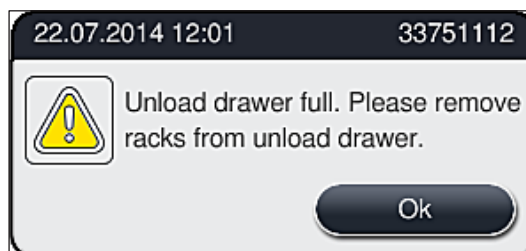

Fig. 86
- The unload drawer must be opened and the racks must be removed no later than when the warning message is received indicating that the unload station is completely occupied (→ "Fig. 86"). Failure to comply with the warning message results in not being able to transport further racks into the unload stations. Deviating step times and delays in the staining process may change and ultimately invalidate the staining results.